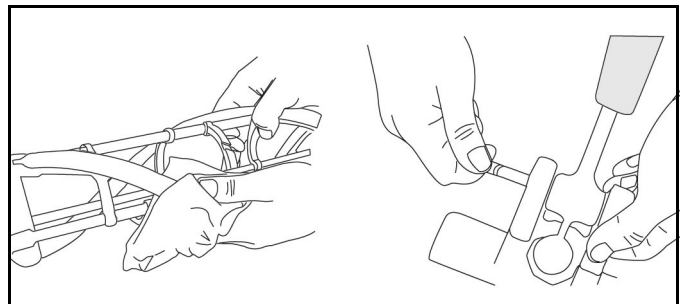

Figure 5-29
- Draw valve handle and pivot pin should be taken out of freezing cylinder door to clean as shown in Figure 5-29.